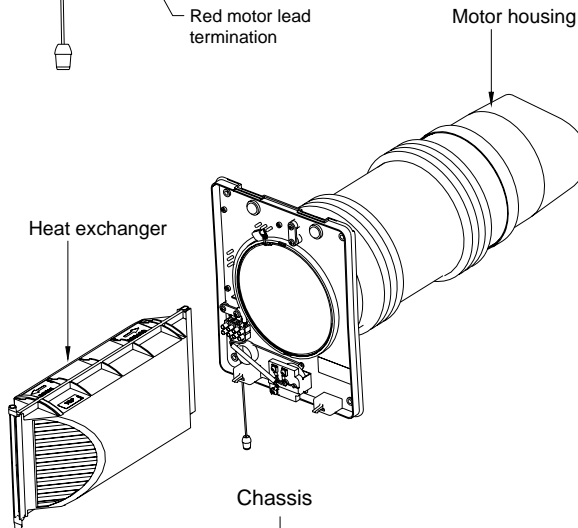

Fig. 23
3. Slide the inner tube out of the unit by pushing the motor housing (Fig. 23).